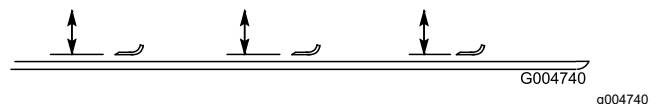

Figure 109
4. Rotate the blade until the ends face forward and backward, and measure from the inside of the cutting unit to the cutting edge at the front of the blade (Figure 109).